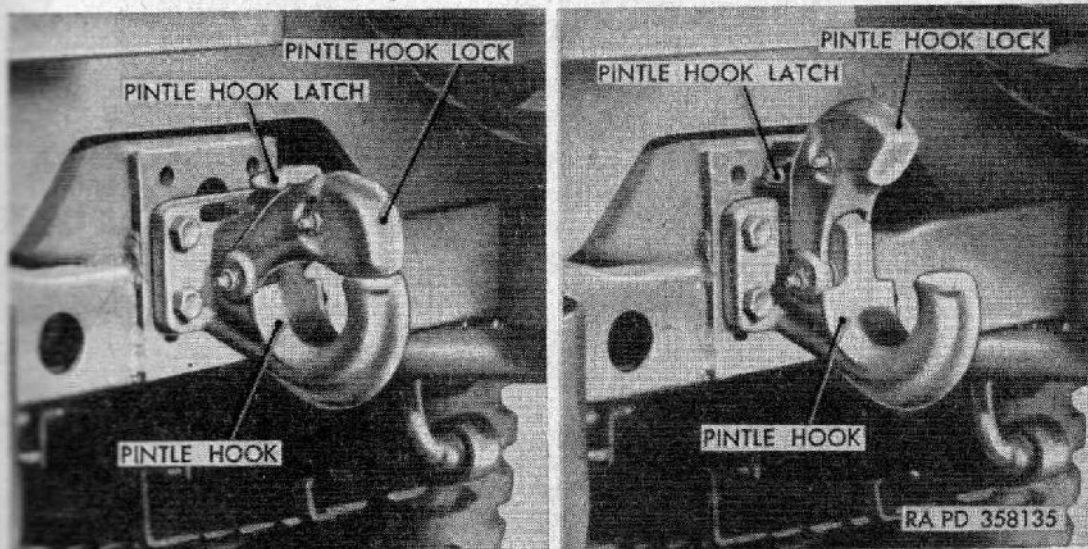

Figure 11. Pintle hook operating positions.
- (2) *Towing vehicle with front or rear wheels off ground.*—If vehicle is damaged to the extent that towing must be accomplished with either the front or rear wheels off the ground, make sure that the transfer direct and underdrive gearshift lever and transmission gearshift lever are in “**NEUTRAL**” and that the transfer front wheel drive gearshift lever is in the **OUT** position.
c. *Use of Pintle Hook* (fig. 11). The pintle hook is located at the rear of the vehicle and is the prime means of attaching a trailer, towing cable, or towing bar. To open pintle hook, pull pintle hook latch to the rear and, at the same time, pull up on pintle hook lock. To close pintle hook, push down on pintle lock.